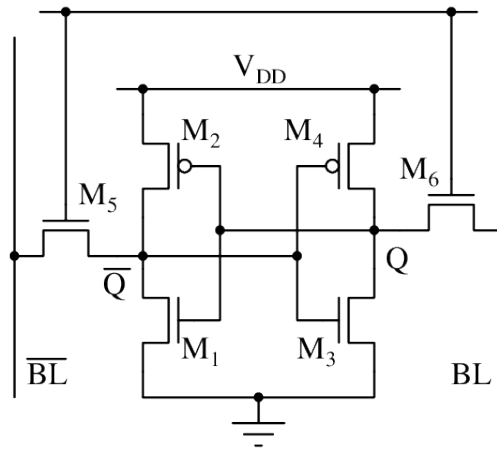

Fig. 7
- (c) Fig. 7 shows the typical implementation of the static random access memory (SRAM) cell.
- (i) Explain the procedure to write logic '1' to the cell with reference to Fig. 7. [15%]